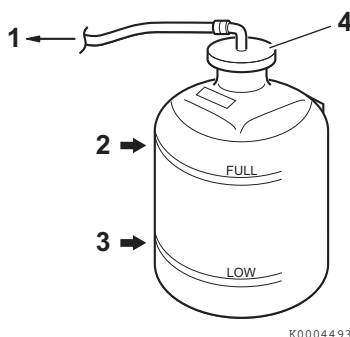

Figure 12
5. Check the coolant level in the reservoir. The level should be at the FULL mark (**Figure 12, (2)**). Add coolant if necessary.
6. Remove reservoir cap (**Figure 12, (4)**) to add coolant if necessary. Do not add water.
8. Check the rubber hose (**Figure 12, (1)**) connecting the reservoir to coolant tank/heat exchanger. Replace if damaged.